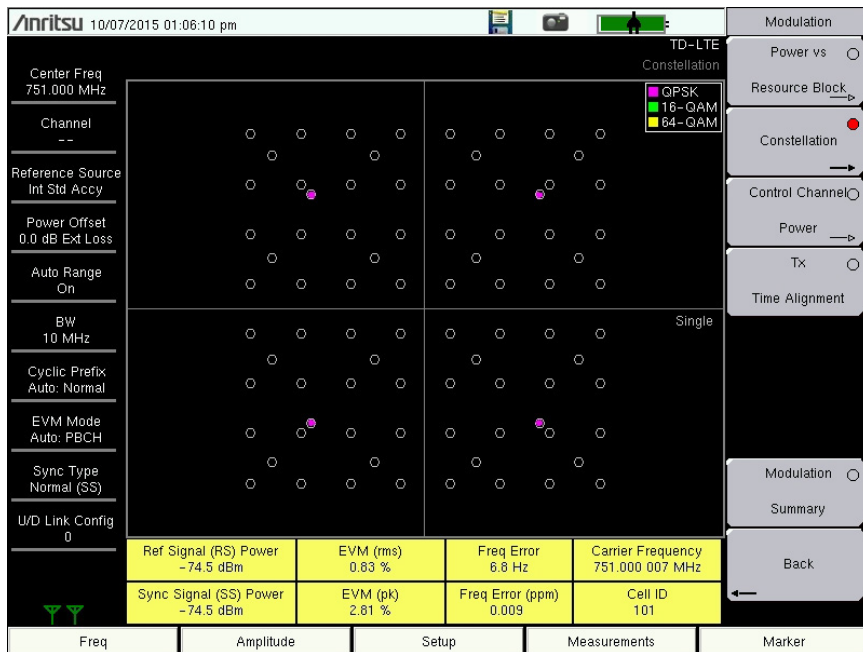

Figure 6-8. Constellation Measurement View
This measurement displays the constellation of the demodulated symbols over the first sub-frame and a results table of the following measurements. See Figure 6-8 on page 6-13.
3. Press the **Constellation** submenu key to activate the Constellation measurement view (Figure 6-8). Press the **Constellation** submenu key again to list the Constellation menu and set up the reference points and data legend.